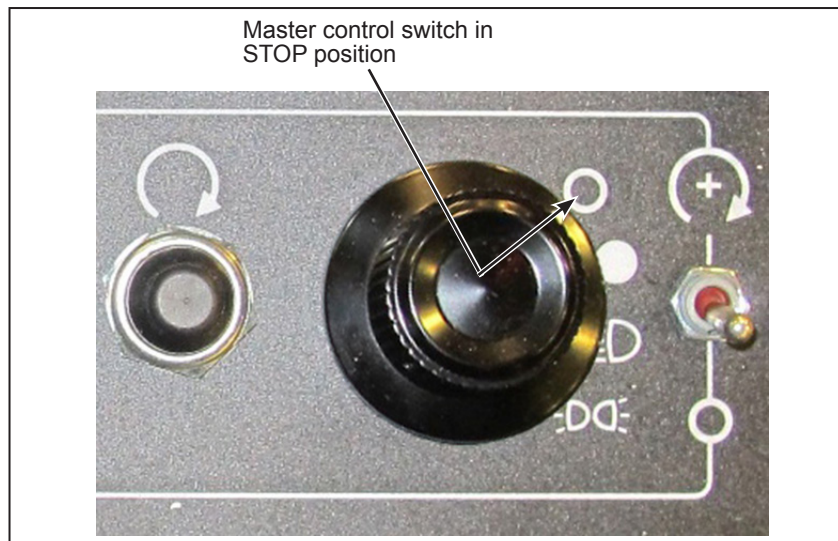

Figure 1 - Master Control Switch in STOP Position
- 1.3. Set the Master control switch in the STOP position (see Figure 1).